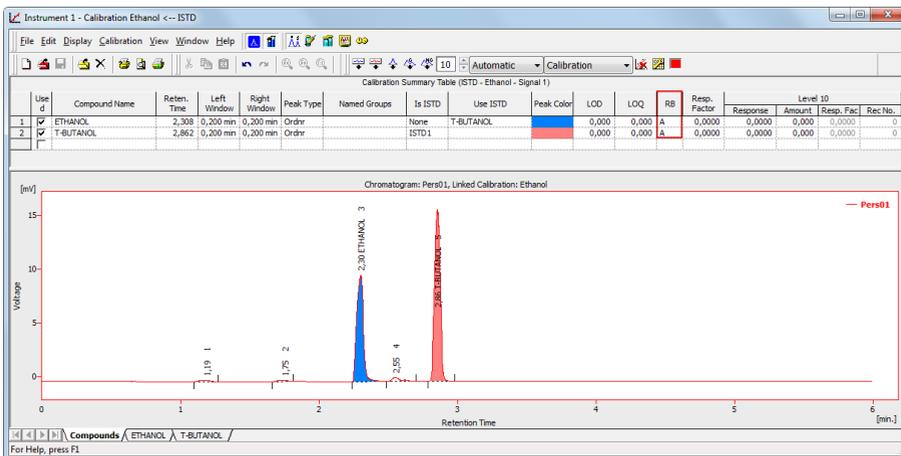
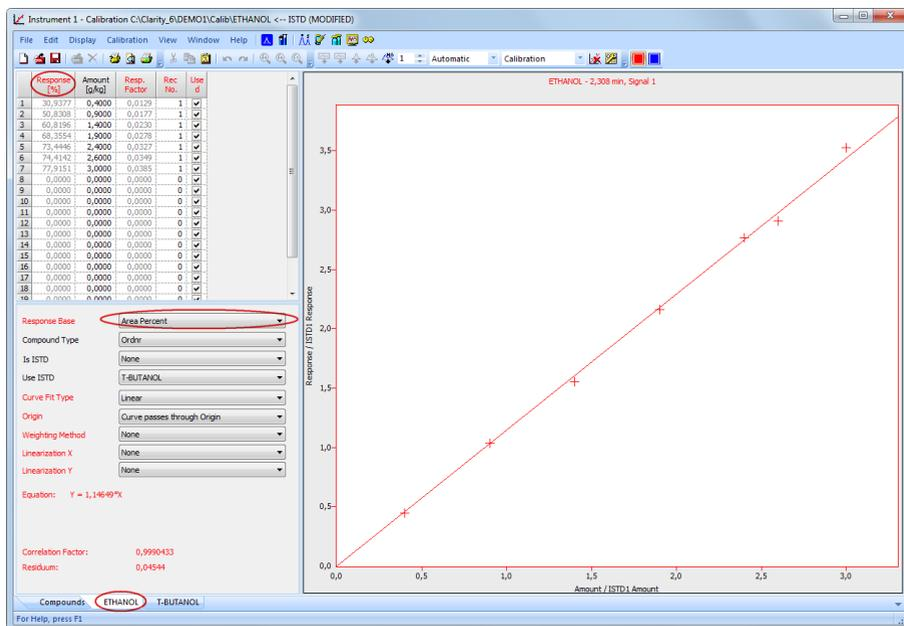

Fig 9: Calibration window with the active chromatogram
Fig 11: Calibration window - cut of Area Percent
- This option is accessible from two points. The first one is located in the **Calibration** window - table compounds under **RB** column (**Fig 9** on pg 10.) - P would stand for **Area Percent**. The second one is located in the **Calibration** window - specific compound tab (e.g. Ethanol) - **Response base - Area Percent**. **Calibration** window with **Area Percent** is seen in **Fig 11** on pg 11.